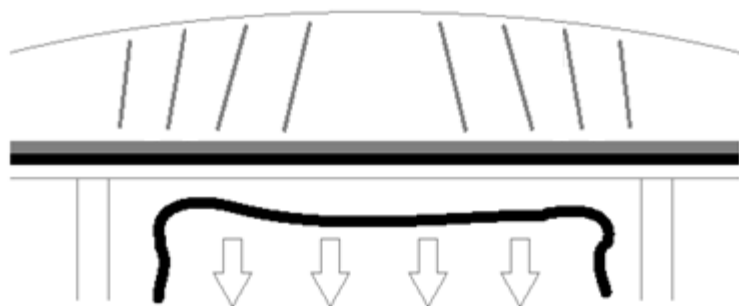

Fig107
- **STEP 1:** At one end of the polytunnel, trap the polythene tight up to the rebate with a pre-nailed batten in the centre of the lintel for approximately 12 inch either side of centre – The polythene should be smooth along this 2ft length with no creases (**Fig107**).